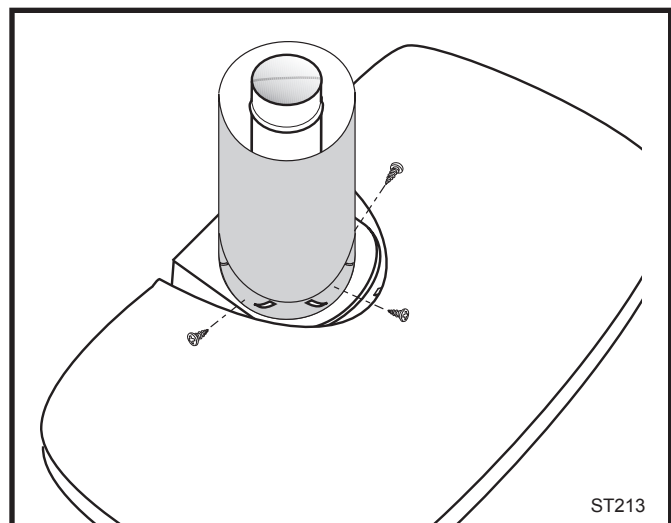

Fig. 19 Fasten outer pipe with #12 x 1/2" sheet metal screw.
5. Install the Outer Adapter Pipe. Apply a 1/4" bead of cement around the inside wall of the pipe, about 1" from the end. Insert the pipe over the stove flue collar, keeping the vertical seam oriented to the back of the stove. Also, be sure to align holes on the pipe with the holes on the flue collar of the firebox. Fasten the pipe to the holes in the flue collar with the #12 x 1/2" sheet metal screws provided. (Fig. 19)